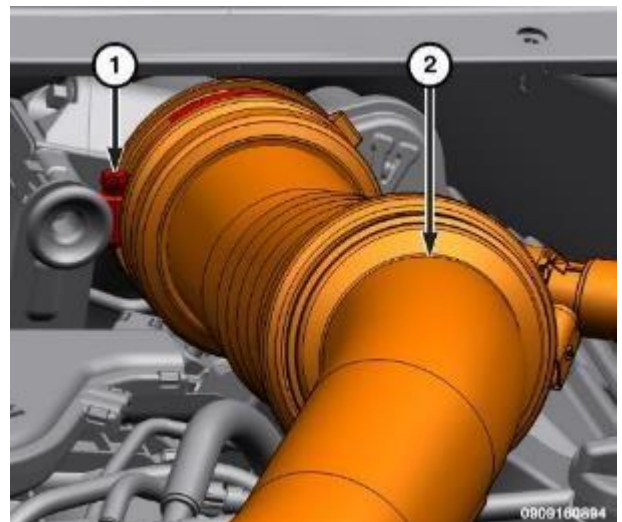

Figure 75 – Clean Air Hose
- 127. Install the clean air hose (2) to turbocharger and securely tighten clamp (1) (Figure 75).